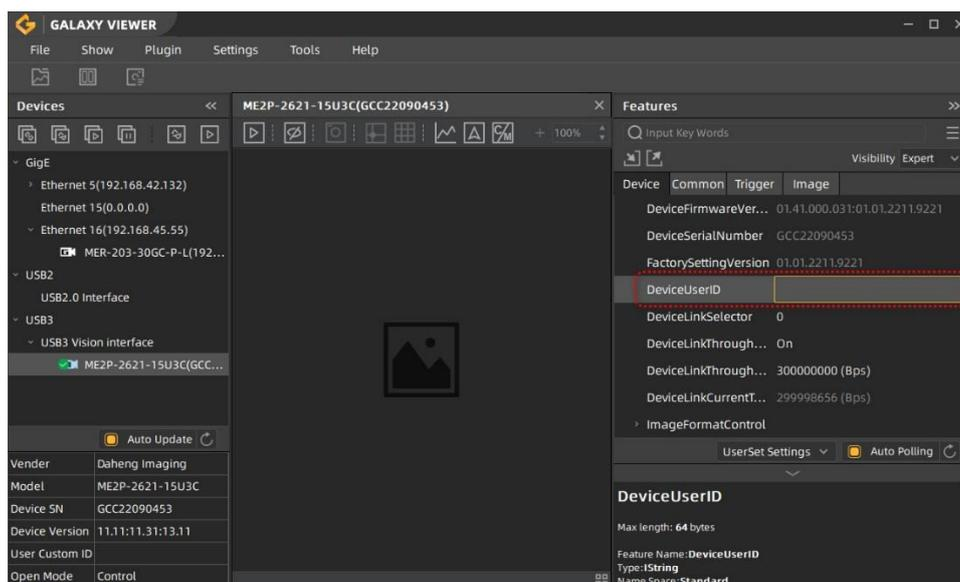

Figure 8-40 GalaxyView software
- 1) Set by the GalaxyView, as shown in the Figure 8-40.